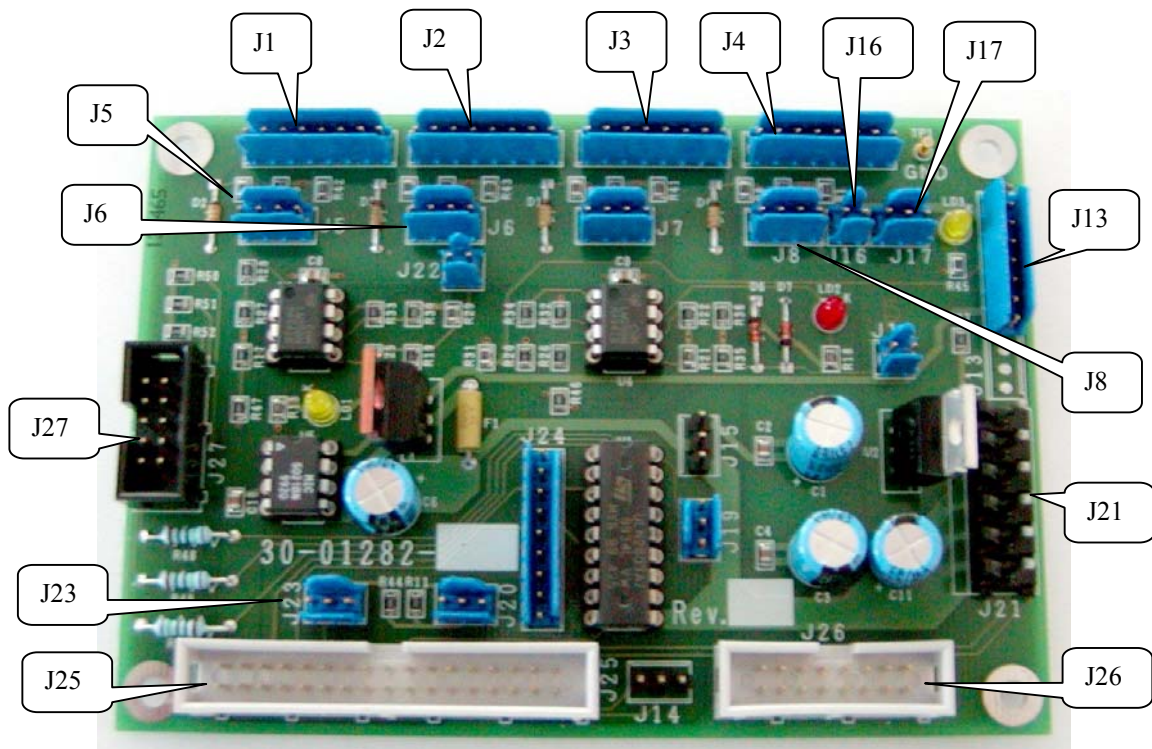

Fig. 93
2. Unplug the J1, J2, J3, J4, J5, J6, J8, J13, J16, J17, J21, J23, J25, J26 J27 connectors and the ground wire from the Arm Interface board (Fig. 93).